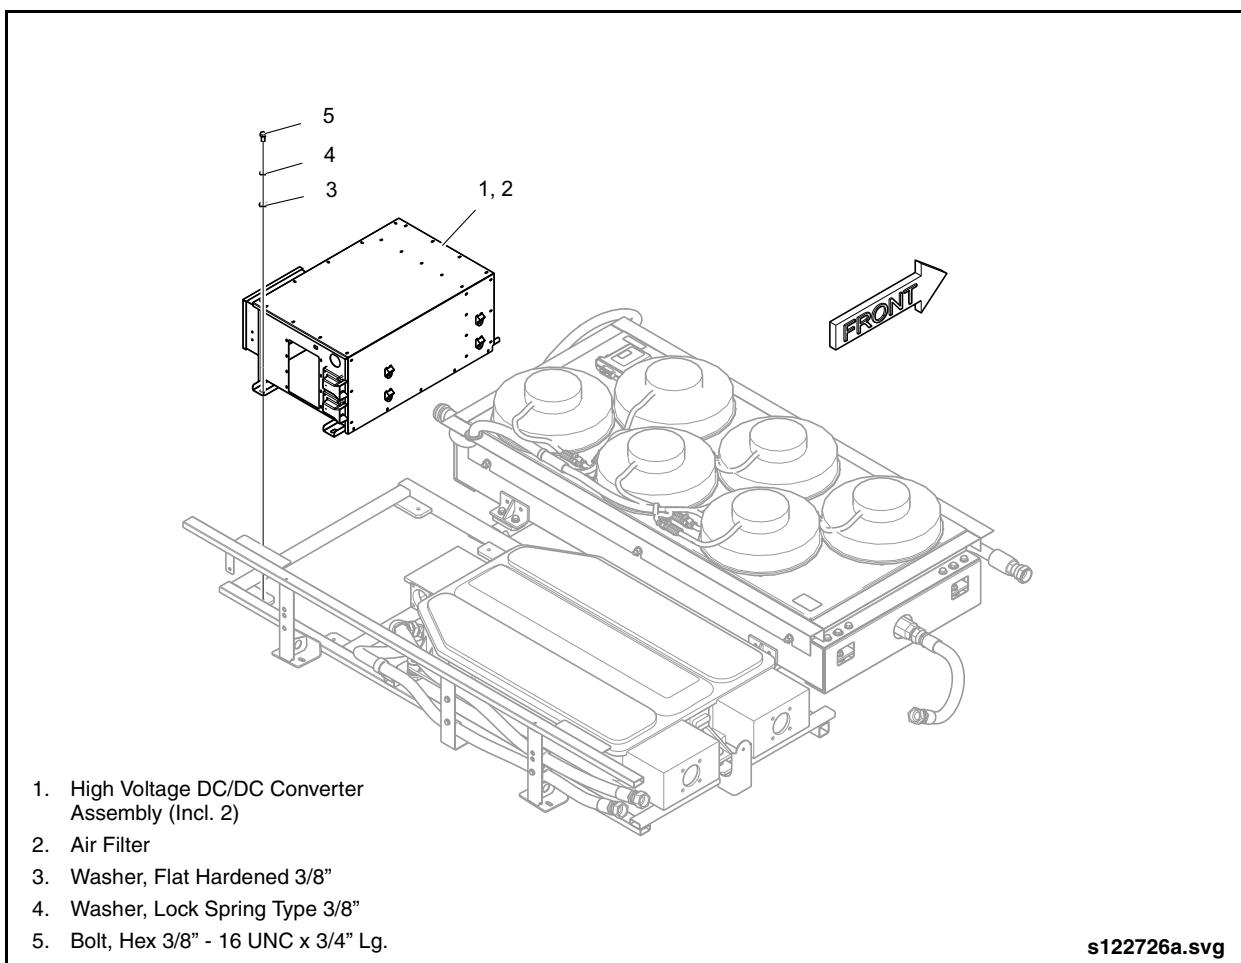

Fig. 9-5: High Voltage DC to DC Converter
12. Remove the mounting bolts securing the converter to the DPIM equipment rack. See "Fig. 9-5: High Voltage DC to DC Converter" on page 11.